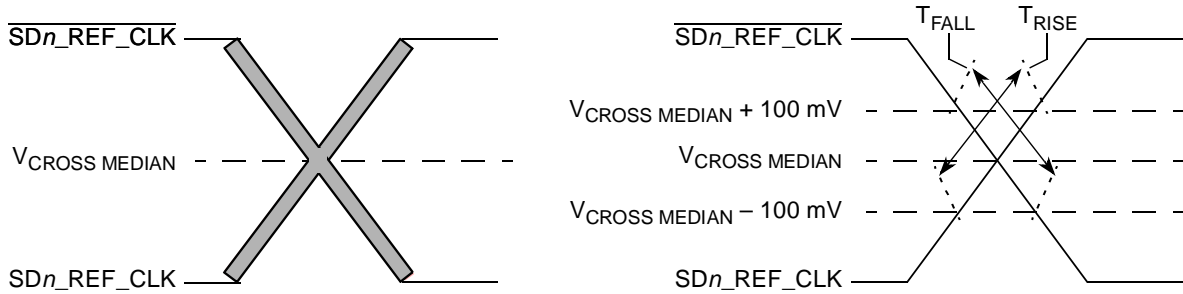

Figure 54. Single-Ended Measurement Points for Rise and Fall Time Matching
4. Matching applies to rising edge rate for SDn_REF_CLK and falling edge rate for SDn_REF_CLK . It is measured using a 200 mV window centered on the median cross point where SDn_REF_CLK rising meets SDn_REF_CLK falling. The median cross point is used to calculate the voltage thresholds the oscilloscope is to use for the edge rate calculations. The rise edge rate of SDn_REF_CLK should be compared to the fall edge rate of SDn_REF_CLK , the maximum allowed difference should not exceed 20% of the slowest edge rate. See Figure 54.